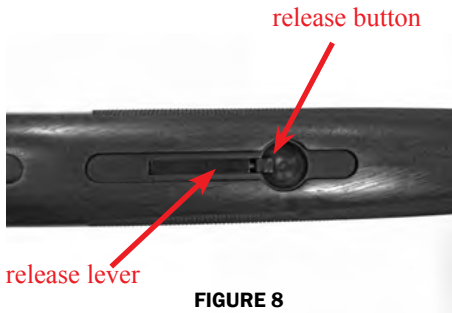

FIGURE 8
4. Press the RELEASE BUTTON (see FIGURE 8) first and then pull the RELEASE LEVER.